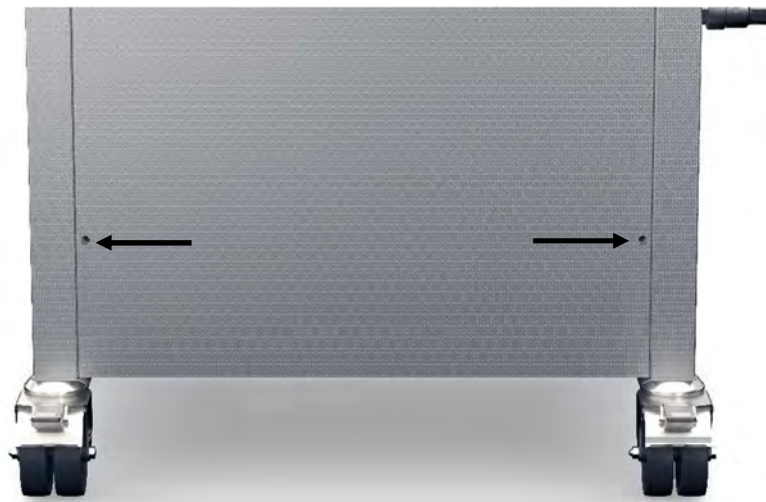

Fig. 9.5.1. Position of the 2 Allen screws
1. Undo the 2 Allen screws (see Fig. 9.5.1).